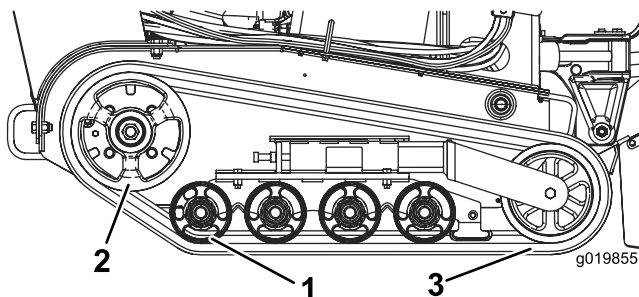

Figure 46
Important: Ensure that you fully clean the wheels and the drive sprocket (Figure 46).
8. Beginning at the drive sprocket, coil the new track around the sprocket, ensuring that the lugs on the inside of the track fit between the spacers on the sprocket (Figure 46).
9. Push the track under and between the rear and center road wheels (Figure 46).